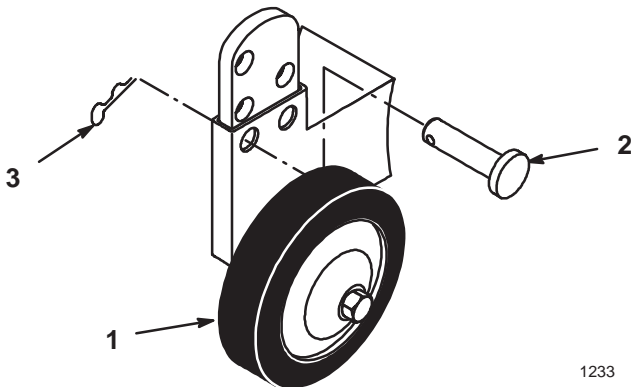

Figure 23
2. Remove the hairpin cotter and pin to change the hole location (Fig. 23).
3. Select a hole position so that the gage wheel is 3/8 in. (10 mm) off of the ground for the height-of-cut to be used (Fig. 23).